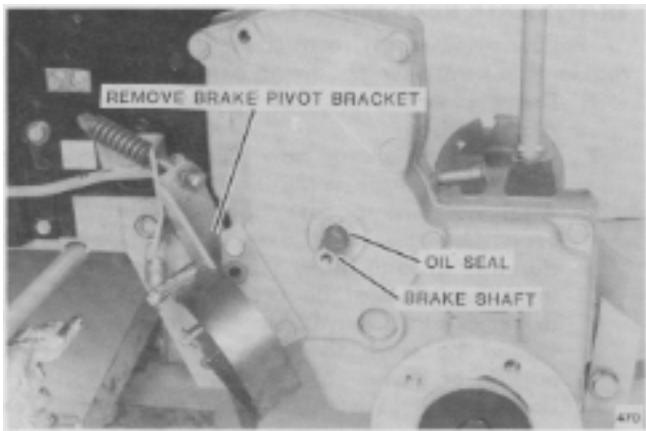

FIG. 25. Brake Drum Removal
13. Remove brake drum (Fig. 25). Thoroughly remove any burrs or corrosion from Brake Drum. If brake drum will not come off, removal can be delayed until case half is removed. Brake shaft can then be pressed out of drum. Needle bearing can be damaged as shaft is pressed through it; replacement is recommended.